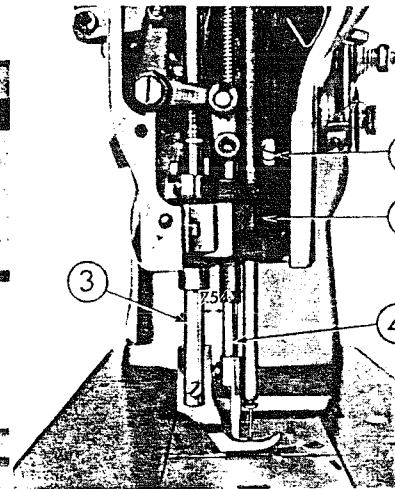

Fig. 18
To adjust the proper height of the needle bar, loosen the needle bar clamp screw (Fig. 18 ①), move the needle bar up and down and adjust. After adjustment, re-tighten the screw.